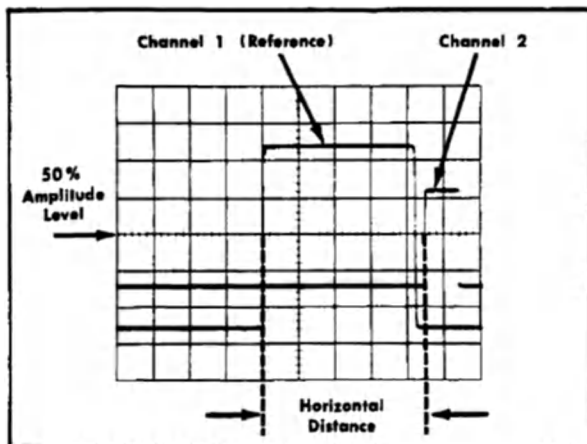

Fig. 2-14. Measuring time difference between two pulses.
11. Measure the horizontal distance between the Channel 1 waveform and the Channel 2 waveform (see Fig. 2-14).
Example. For example, assume that the TIME/DIV switch is set to 50 μ SEC, the magnifier is on and the horizontal distance between waveforms is 4.5 divisions (see Fig. 2-14).